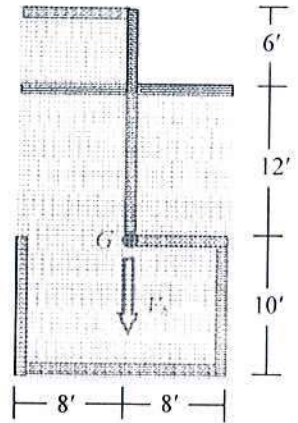

Fig. 3
4. Fig. 3 shows the ground floor plan of a 3-storied brick masonry building (with 9'-high solid walls)